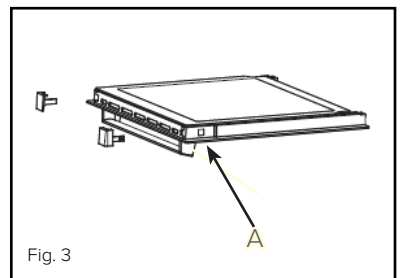

Fig. 3
- Remove both door top corner pieces; these can be removed by pressing the buttons shown at "A" in fig. 3, then sliding the corner pieces toward you.